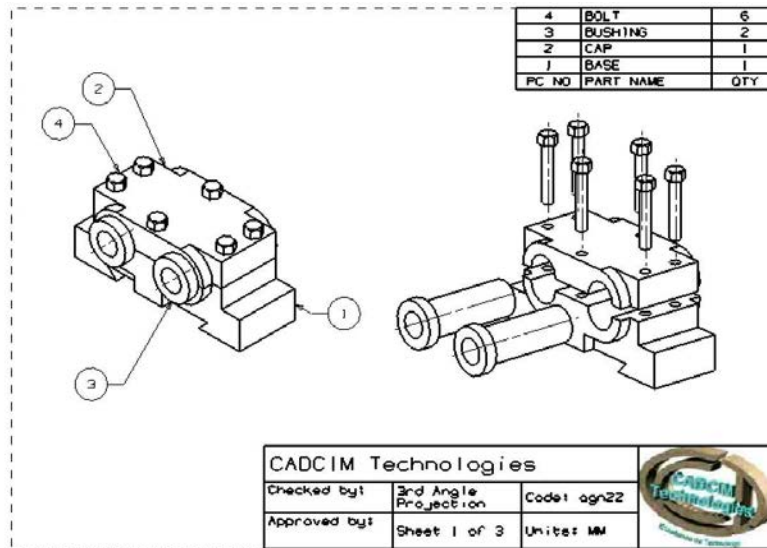

Figure 12-61 The completed drawing sheet after generating the drawing view, parts list, auto balloons, and inserting the title block
- e. Insert the tabular note into the drawing sheet, refer to Figure 12-61.
5. Drag the tabular note named **Table-1** from the list of tables displayed and drop it in the drawing sheet. Then, position the tabular note in the drawing sheet, as shown in Figure 12-61. Add the company logo to the tabular note as discussed in the previous tutorial. Figure 12-61 shows the complete drawing sheet.